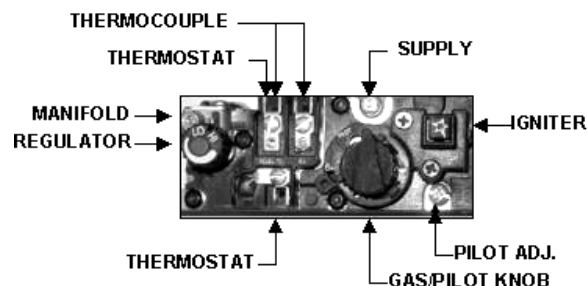

FIGURE 5: Gas Valve
12. To reduce heat output, turn Hi/Lo Knob counterclockwise to desired temperature (see FIGURE 5: Gas Valve). Heat output can be reduced by up to 13,000 BTUH (1/3).
2. For complete shutdown turn Gas/Pilot Knob (see FIGURE 5: Gas Valve) to "OFF".